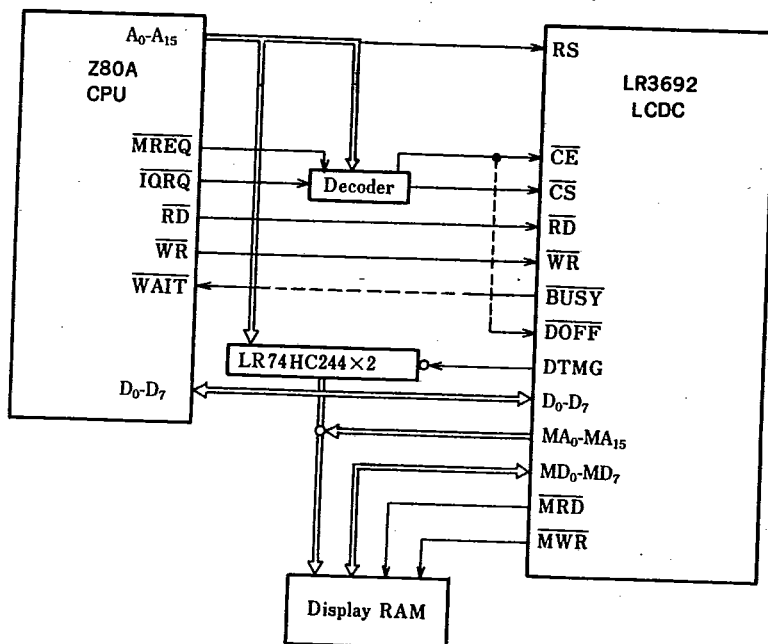

Fig. 2 Interface with CPU (Direct mode)
② Direct mode A sample system configuration for Direct mode access is shown in Fig. 2. The Direct mode is selected if the value of the command register is anything but $0CH$. If $BUSY$ is high and CE is low, the RD , WR and D_0-D_7 pins are linked to the MRD , MWR , and MD_0-MD_7 lines, respectively. At this time the $DTMG$ is set at low and the MA_0-MA_{15} pins are set to high impedance, to transfer the address specified of the CPU direct-